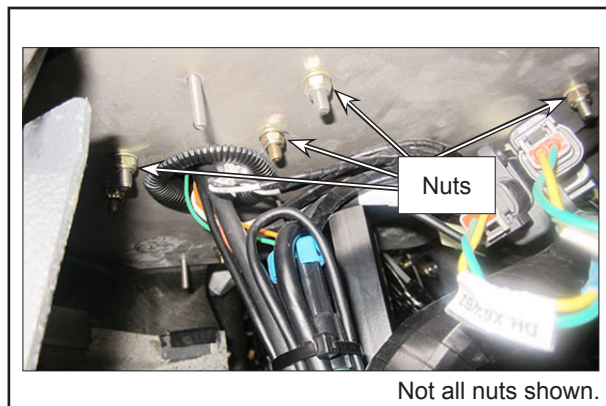

Figure 8 - Remove Nuts Beneath the Central Plate
- 2.6. Remove the nuts from beneath the right hand side of the central plate. See Figure 8.